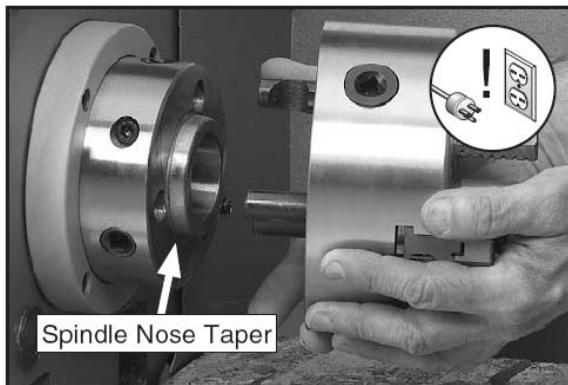

Figure 12
5. Use a rocking motion to carefully remove the chuck from the spindle (**see Figure 12**).